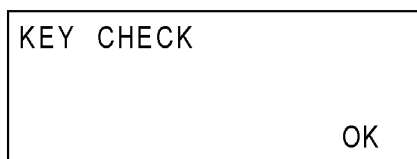
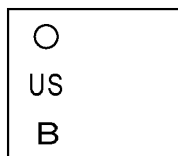
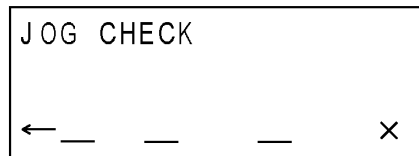

Fig. 27
Fig. 28
Fig. 32
- (3) After the completion of full key check, it displays as shown in Fig.27 and the machine prints the contents as shown in Fig.28. The detail of Fig. 28 is as follows.
- (7) If any error is detected, the machine displays as shown in Fig.32.
- (8) When no error is confirmed, the display shifts to the right mode. Do the same check to the right direction.
- (9) When all the check completes successfully the machine displays "OK" and then prints the same contents as shown in Fig.28.